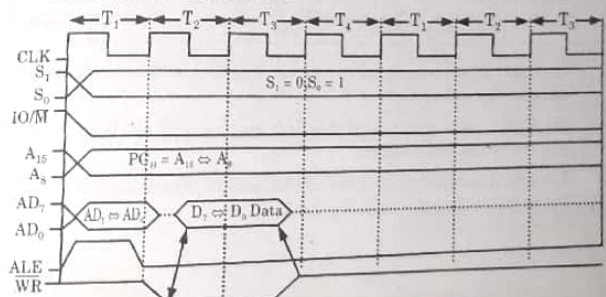

Fig. 2.8.3. Memory write timing diagram.
4. This ensures that the memory or port has valid data while $\overline{WR}$ is active, it is clear from Fig. 2.8.3.